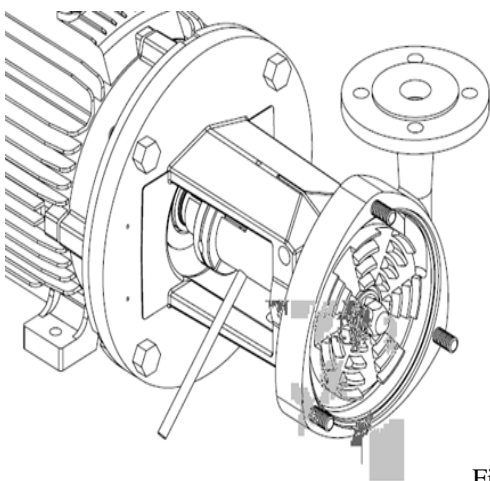

Figure 2
4. Insert a 3/8" bar in the hole in the stub shaft. See Figure 2. Loosen the impeller nut. Turn the impeller nut with a 15/16" wrench counter-clockwise.